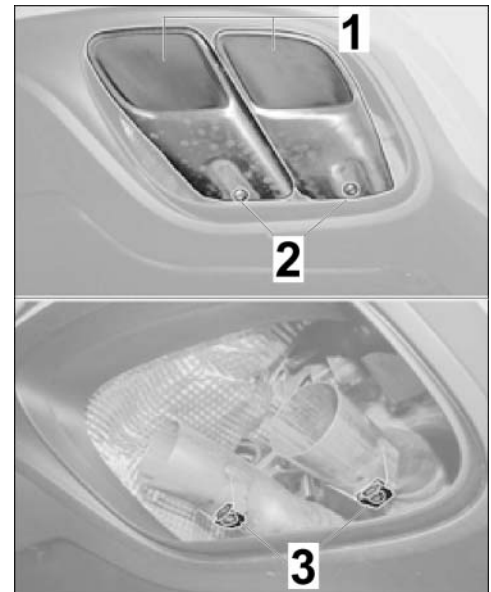

Figure 5 (Panamera Turbo)
- 1.3 Remove standard tailpipes (⇒ *Figure 5 (Panamera Turbo)*). ⇒ *Workshop Manual '263519 Removing and installing tailpipe trim'*